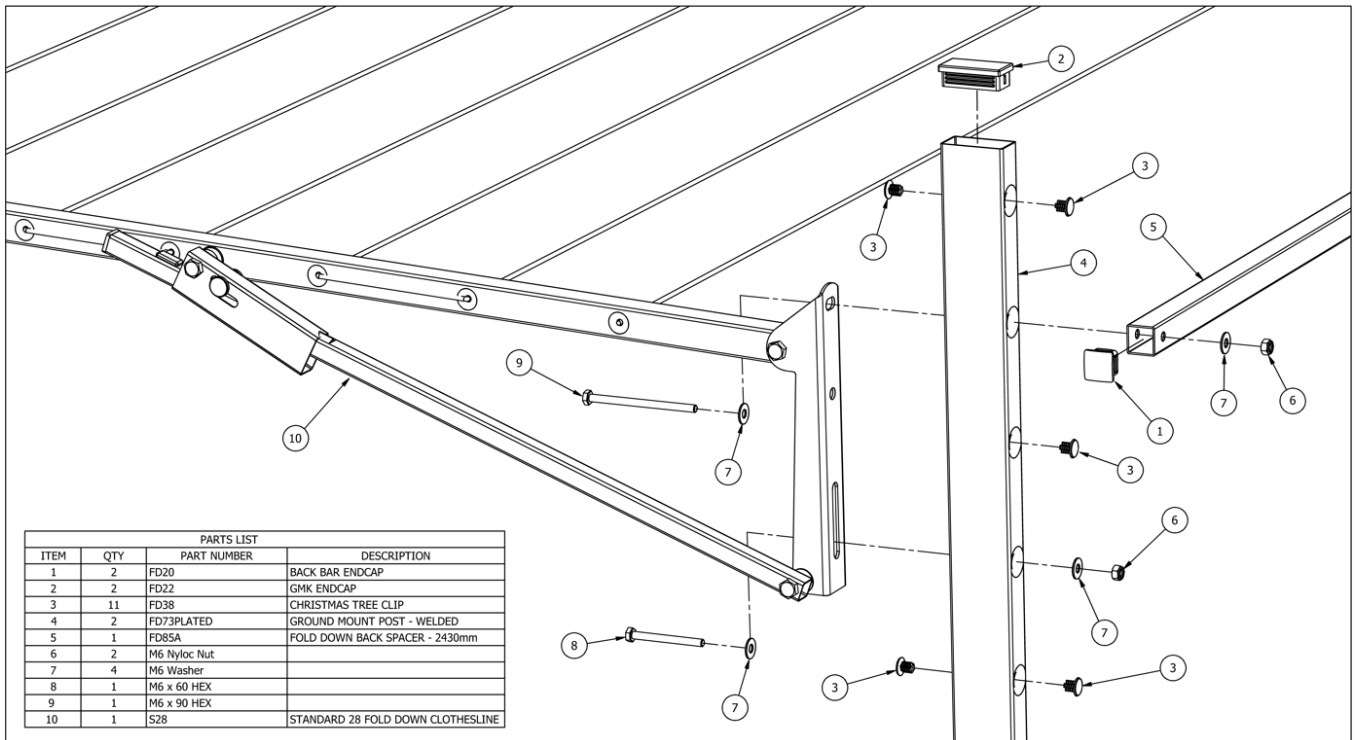

Fig 6. Installation to GMK, (Standard 28 shown).
7. Install the clothesline (Fig 6).
7. Clothesline can be installed immediately. (Fig 6).
6. Complete installation (Fig 6).
5. Complete installation. (Fig 6).